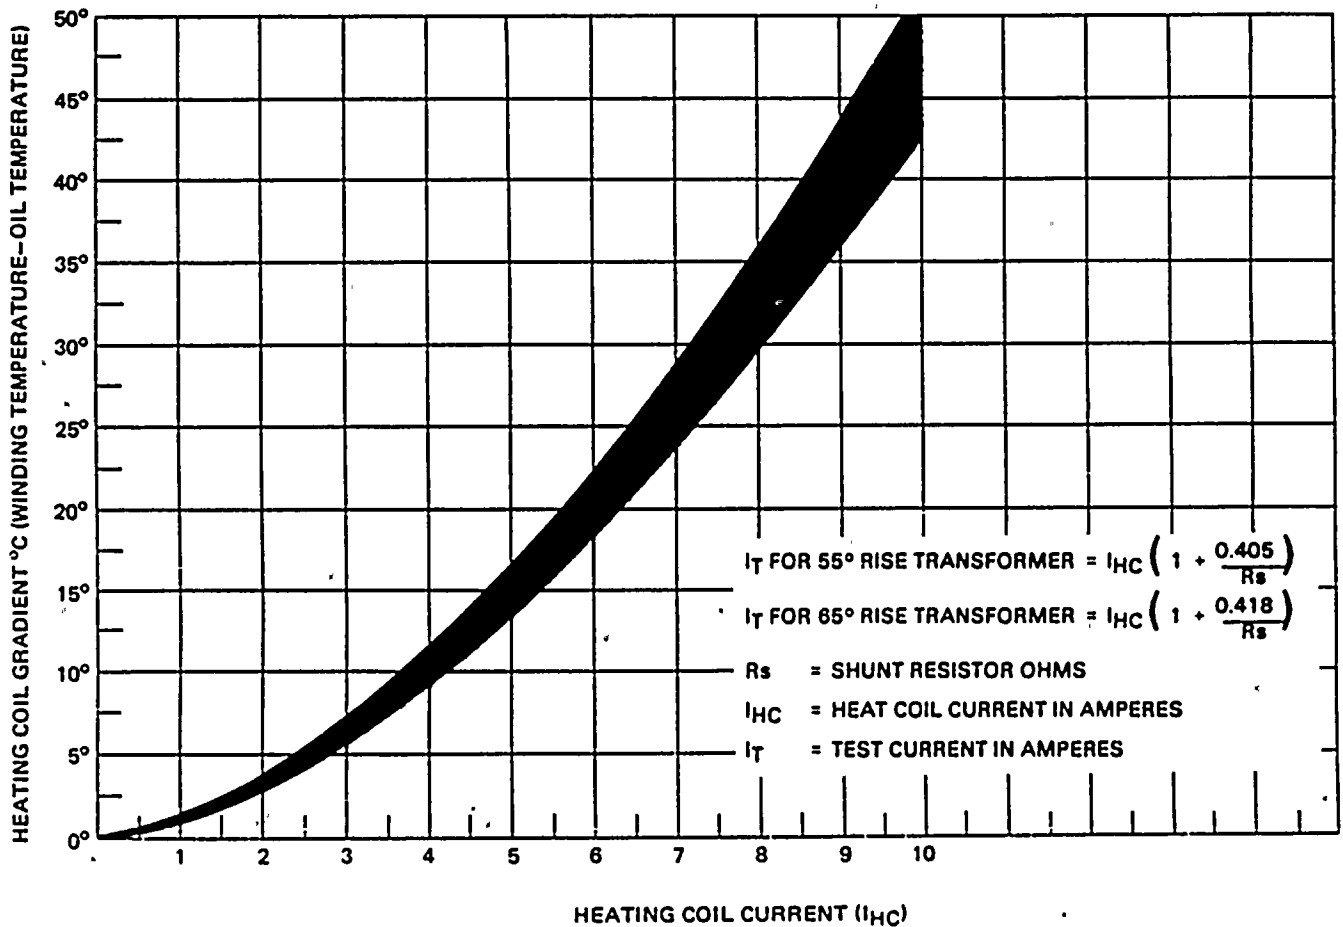

Figure 8.
6. Figure 8 shows the heating coil gradient curve and formulas used to determine the test currents required to obtain the corresponding heating coil currents. Consult the certified test sheets to determine the value of shunt resistor (R).
7. Using the appropriate formula from Figure 8, select at least two test currents and circulate the calculated test currents in the heating coil circuit until the heating coil temperature is constant (45 to 60 minutes). The heating coil gradient can be determined by subtracting the oil temperature reading from the hot spot reading. (Thermom-